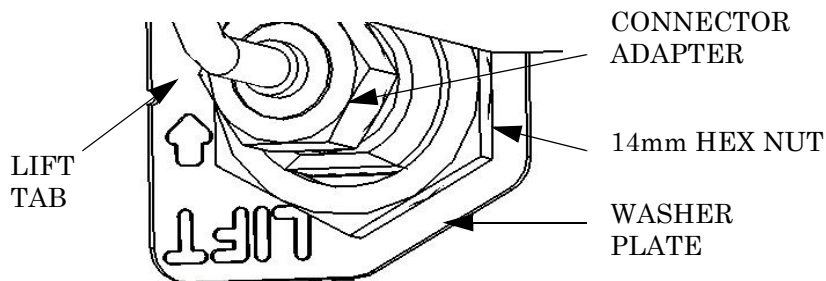

Figure 4-11. Connector-Adapter Installation
- 11 On the back side of the connector-adapter, place the washer plate and the 14mm hex nut over the SMA connector and secure. See Figure 4-11.